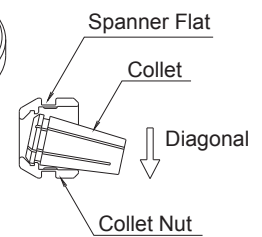

Fig. 5
- ③ The collet and collet nut are held together by a groove in the collet and a flange in the collet nut. To remove the collet hold the collet nut in one hand and push diagonally down on the collet. The collet should pop out. (Fig.5)
- ④ Install the new collet in the collet nut by positioning the collet in the collet nut and pressing down on a flat surface. (Fig.5)